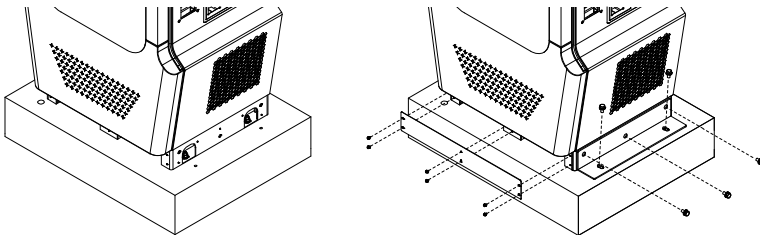

Figure 17. L-Bracket Install
6) Attachment method 2: Drill four M 12 expansion bolt holes to use the 2 L-brackets that come in the accessory pack. See figure 17.
1) Attach the L-brackets using 4 M12 expansion bolts. See figure 17.